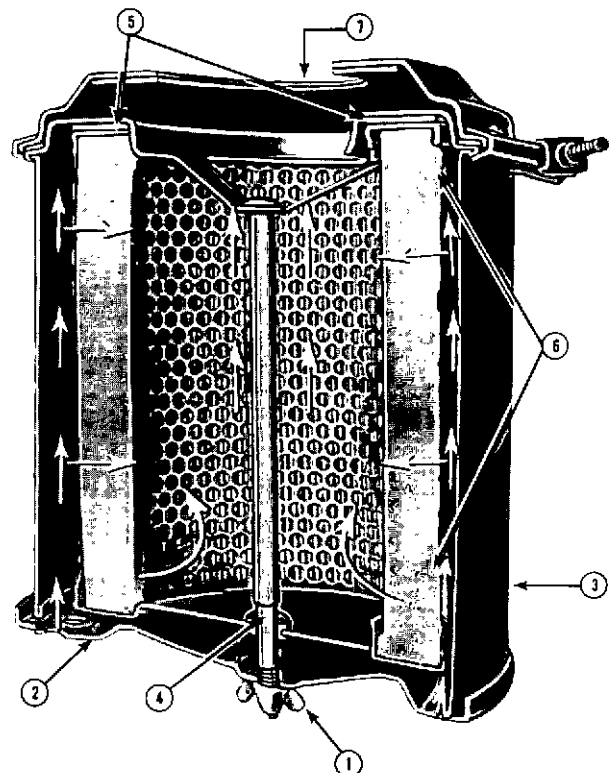

Fig. 2-4 (N11003) Air cleaner (dry-type)
1. Loosen wing nut (1, Fig. 2-4) securing bottom cover (2) to cleaner housing (3). Remove cover.
2. Pull element (6) down from center bolt (4).
3. Remove gasket (5) from outlet end (7) of housing.